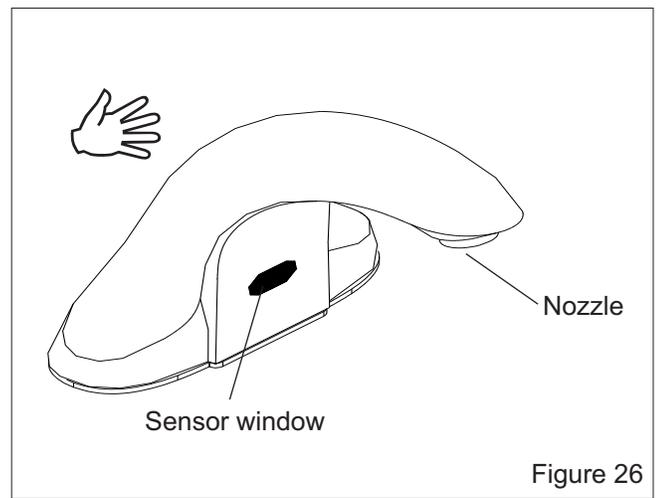

Figure 26
1. Remove the nozzle (Figure 26 and 27) from spout.